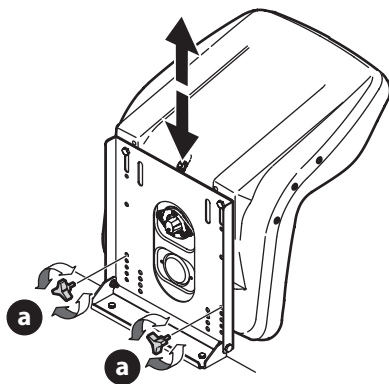

Figure 12
3. Replace the knobs into one of the four hole settings and tighten securely (Figure 12).